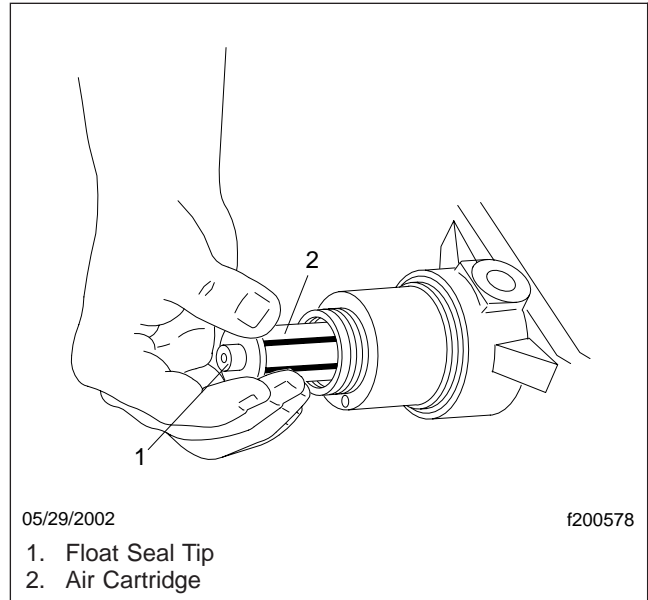

Fig. 10, Removing the Air Cartridge
- 24.2 Remove the air cartridge assembly. See Fig. 10 .